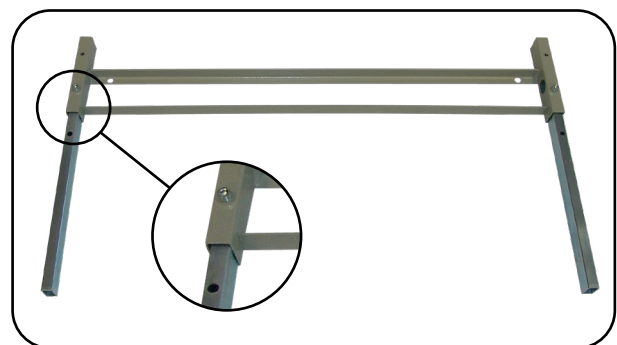

Fig. 6.6.04 – Extension tubes mounted in bed extension
4. Screw the two Allen bolts into the holes and tighten them using the Allen key (6 mm) provided (Fig. 6.6.04).